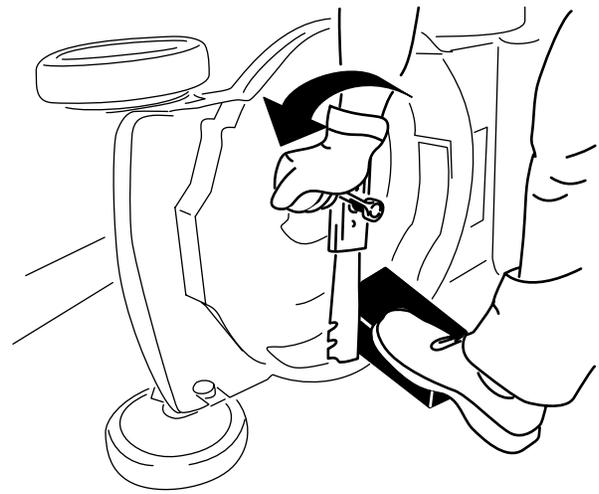

Figure 21
2. Use a block of wood to hold the blade steady (Figure 21).
3. Remove the blade, saving all mounting hardware (Figure 21).